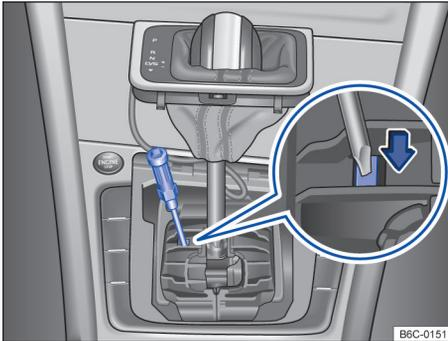

Fig. 99 Remove the selector lever cover and manually emergency unlock the selector lever lock.
- With the help of a screwdriver carefully press the release lever in the direction indicated by the arrow and keep it in that position → Fig. 99.